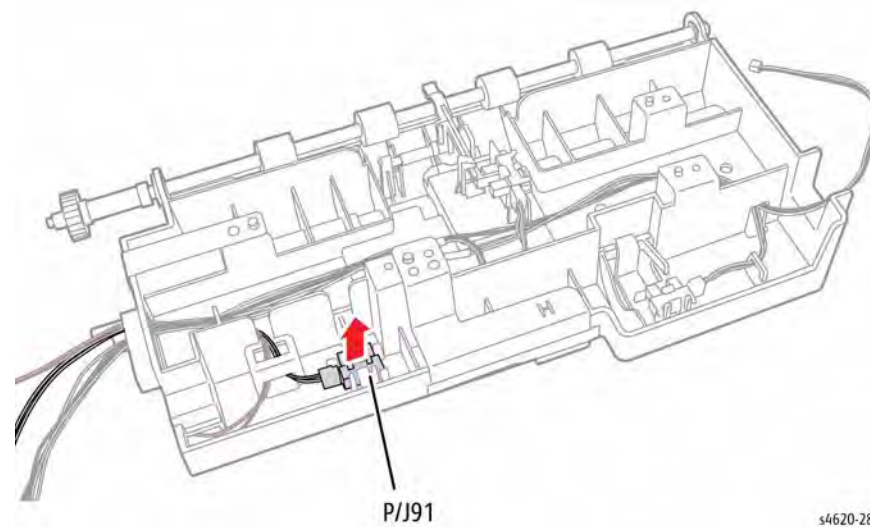

Figure 1 Remove the HCF Level Sensor
8. Disconnect P/J91 and release 2 hooks that secure the sensor to the HCF Feed Assembly, Figure 1.